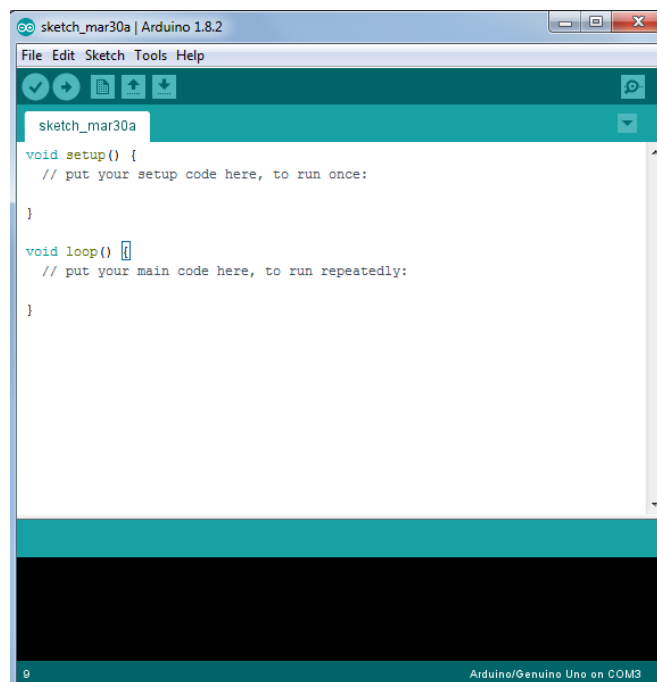

Figure 20: Arduino 1.8.2 Main Window
- Double click the Arduino icon on your desktop to open the software. You should see something like in Fig. 20.